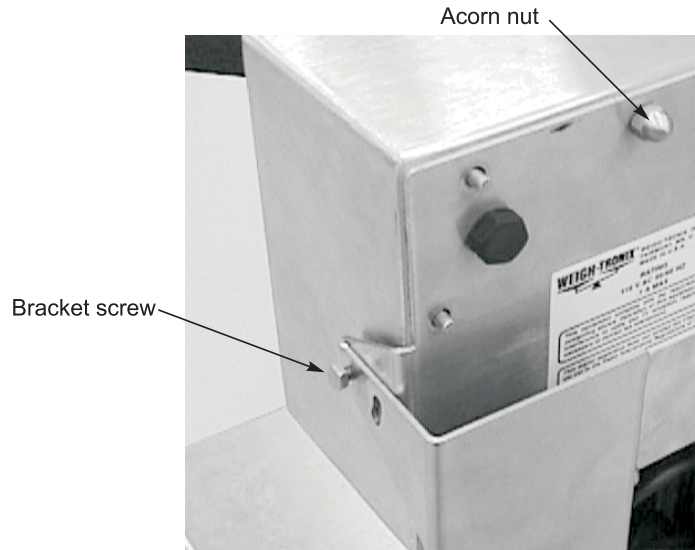

Figure 11
1. Remove the bracket screws, shown in Figure 11, and slide the head out of the brackets.